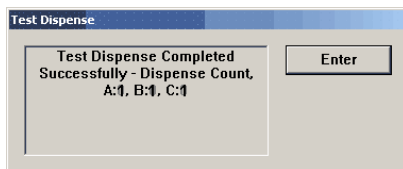

Figure 10. Test dispense prompt..
- e. After completion of the Test Dispense, the following prompt is displayed - “Test Dispense Completed Successfully - Dispense Count, A: (# of notes), B: #, etc (Figure 10)